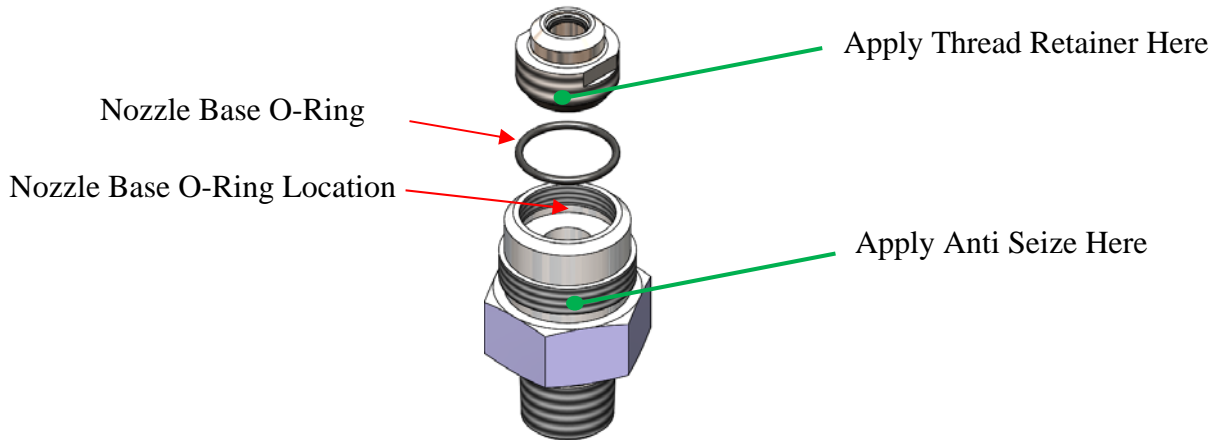

Figure 28: Inlet Base Components
11. Install the nozzle base o-ring into the lower corner of the nozzle pocket. See Figure 28.
12. Put a dot of medium strength thread retainer onto the bottom of the threads of the nozzle. See Figure 28.
17. Put a small amount of anti-seize on the threads of the inlet base that get screwed into the body. See Figure 28.